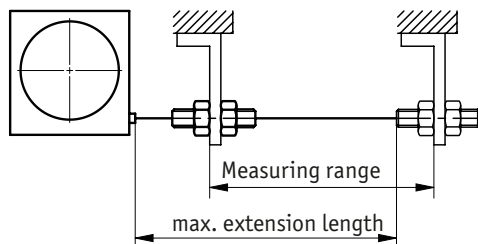

Fig. 3: Extension length check
- ▶ Do not extend the wire beyond the specified maximum extension length (see Fig. 3).
- ▶ Conduct the wire perpendicular to the wire outlet (see Fig. 3).
## Mounting the wire-actuated encoder (Fig. 2, Fig. 3):
2. After mounting, check that the maximum extension length complies with the application (Fig. 3). The wire end piece / wire must be pulled out up to the planned fixation point. Wire torsion should be avoided.